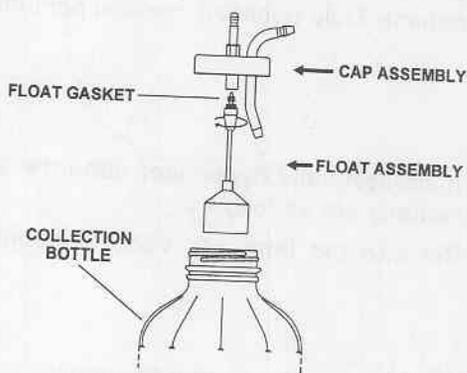

Figure 2-2. *Assembling the cap and float assembly.*
- (c) Screw the float assembly into the cap assembly by turning it in a counterclockwise direction (fig 2-2).